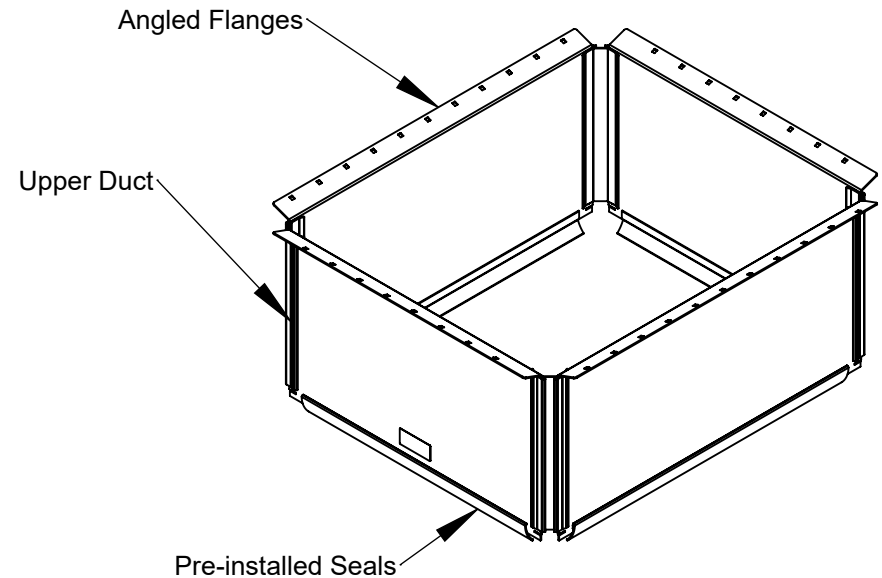

Fig. 2
2. Expand the Upper Duct. The top of the Upper Duct has angled flanges. The bottom of the Upper Duct will come with seals pre-installed (Fig. 2).